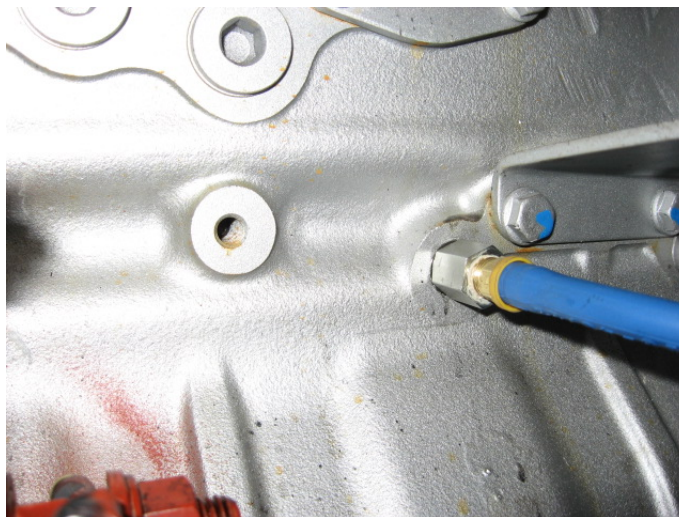

Figure 7 – The Oil Supply Port
2. Remove the plug and replace it with the supplied hose adapter. See Figure 7.